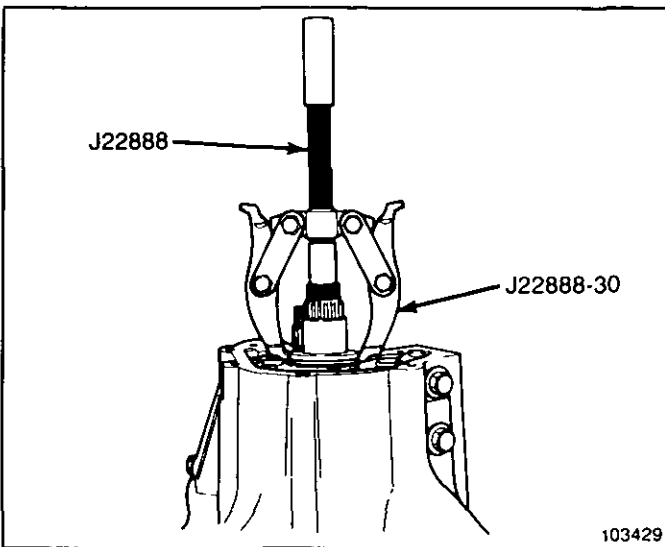

Figure 16 Collar and Thrust Washer
9. Remove the collar and thrust washer from the output shaft using J-22888 and J-22888-30 (Figure 16).